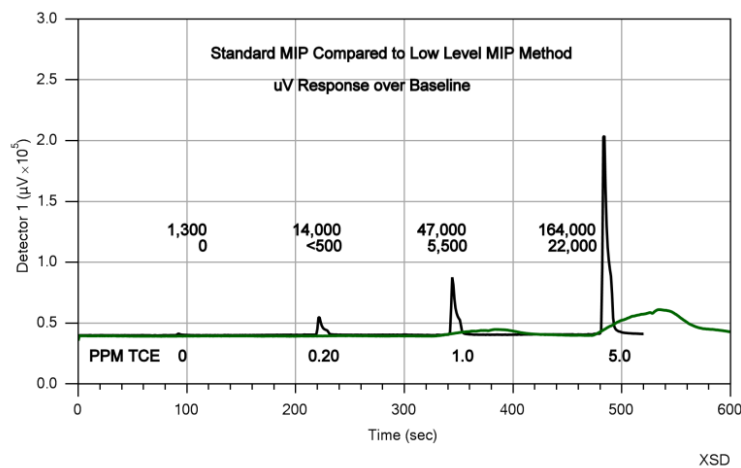

Figure 1: Standard vs. Low level MIP Response
The low level (LL) MIP method works due to special management and control of the trunkline system carrier flows. In standard MIP operation, the carrier gas flows across the membrane continually transporting (sweeping) contaminants to the detectors at the surface. In the LL MIP method, the trunkline carrier flow is temporarily plugged when the MIP probe is brought to rest at a discrete depth in the soil. Plugging the carrier gas flow allows the contaminant concentration to build behind the membrane. This results in a larger and narrower contaminant response peak at the detectors for a given chemical concentration (Figure 1). A switching valve located inside the MP9000 creates separate gas flow paths for the MIP trunkline and detectors, which allows the trunkline flow to be stopped and restarted with minimal impact of detector baselines or stability. When the trunkline flow is restarted the contaminant mass (peak) is quickly swept to the surface with a trunkline flow rate of approximately 60ml/min. and is routed to the detectors via a sample valve located in the MP9000. Figure 1 shows the difference between standard and LL MIP response levels.